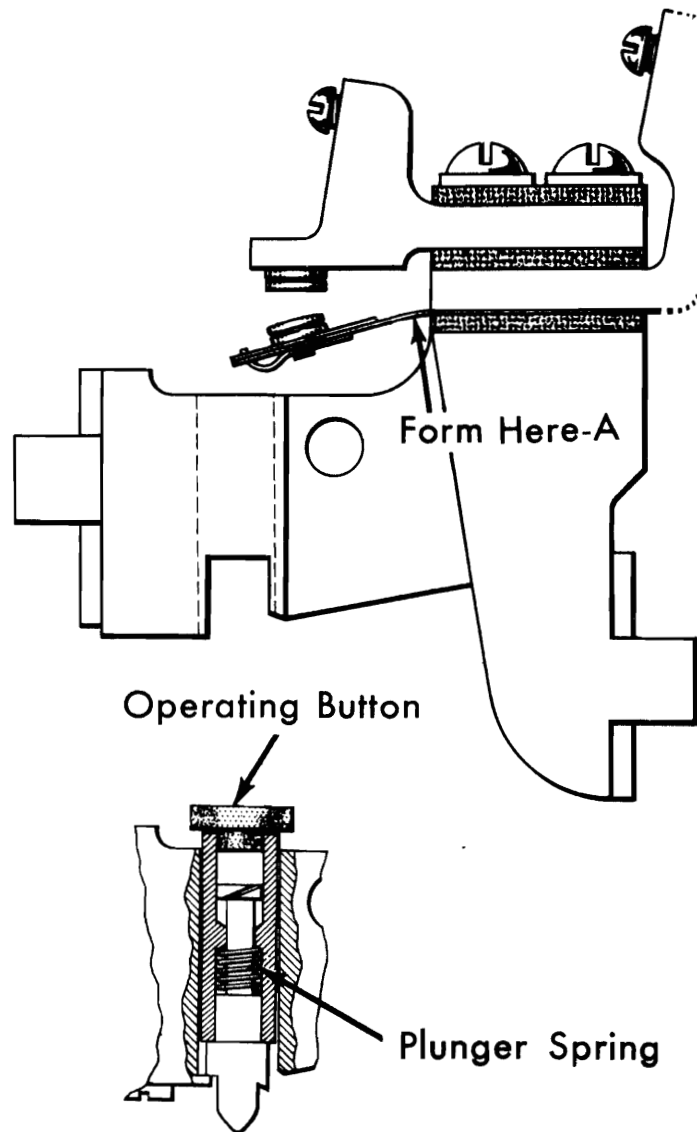

Figure 3. Plunger Circuit Breaker Adjustment 1
1. The lower strap should be formed at point A to provide proper tension. (Figure 3). At the factory these straps are adjusted so that a force of 160 grams plus or minus 10 grams (approximately 6 oz.) applied at the tip of the lower strap will just close the points. This tension must be maintained accurately to prevent